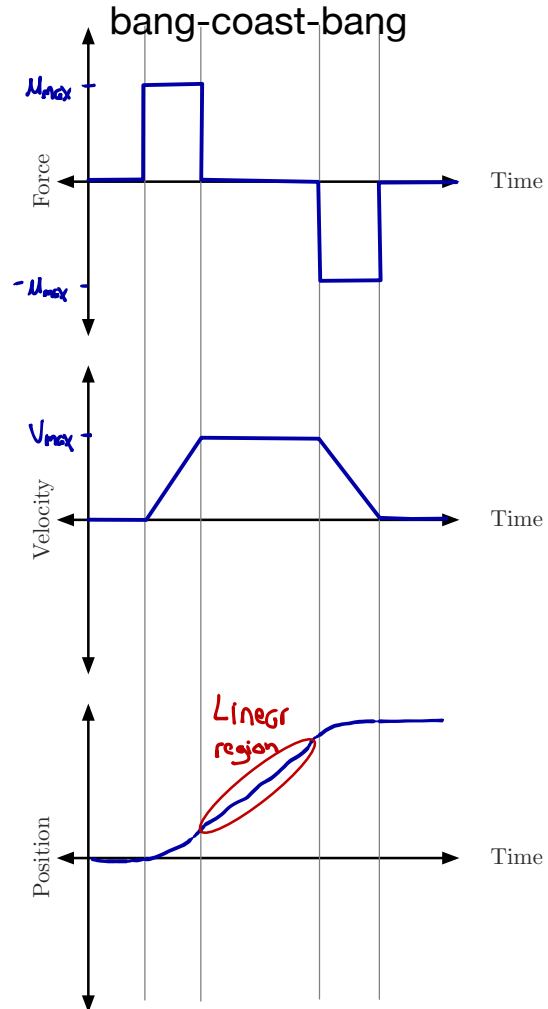

Figure 4.3: Axes for Question 4(c)
c. How would the command, $f(t)$, and responses change if there were a velocity limit? Sketch them on the axes in Figure 4.3. add coast segment ->